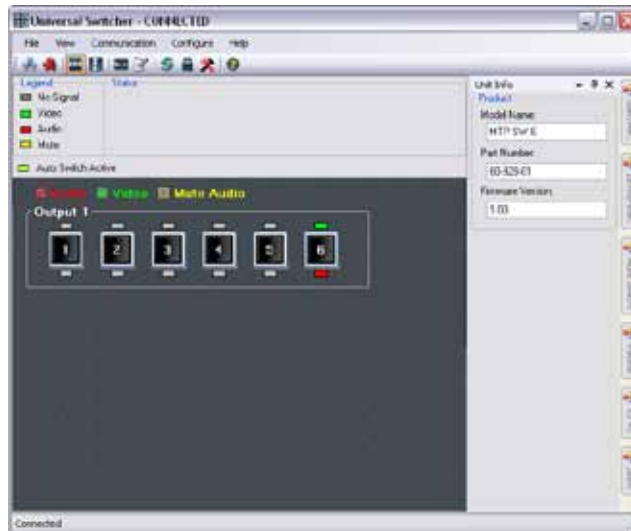

Figure 16. Universal Switcher Control program window
3. The Extron Universal Switcher Control Program window (figure 16) displays the selected video and audio input.